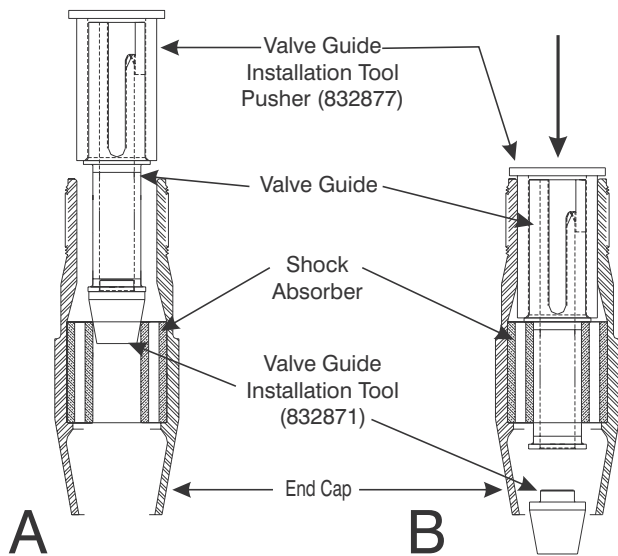

Figure 9-6. Press the Valve Guide into The Shock Absorber.
13. Press the Valve Guide into Shock Absorber until the center shoulder of the Valve Guide seats against the Shock Absorber as shown in Figure 9-6-B.